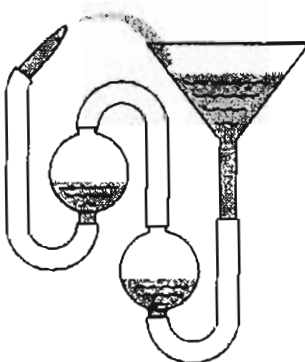

Figure 27.1TP1
- Look at Figure 27.1TP1. This apparatus appeared in a magazine with the statement that once the funnel was filled, it ran continuously for 12 hours before stopping. Do you believe it?